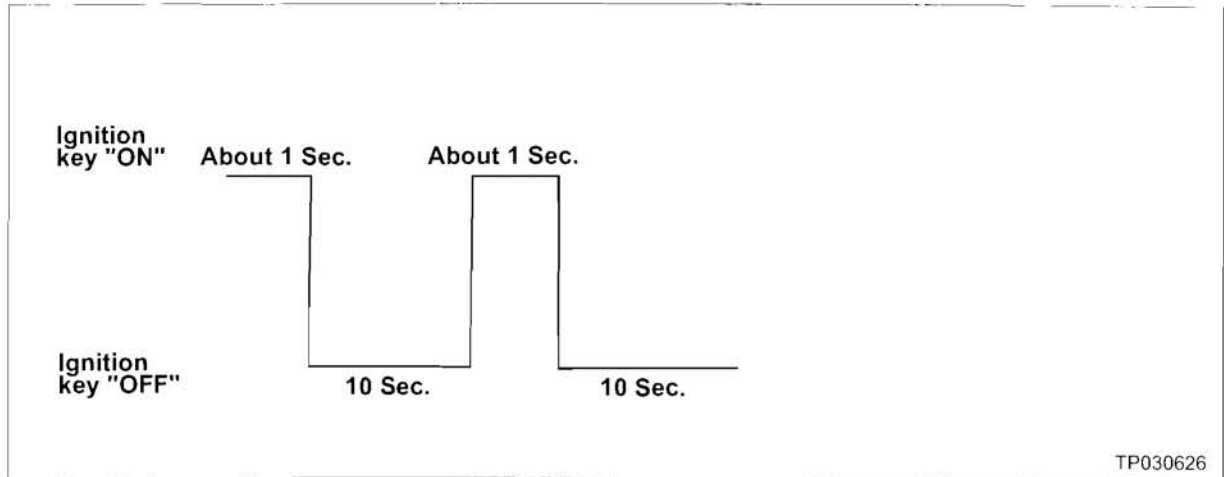

Figure A21
30. **Wait more than 10 seconds, then turn the ignition switch ON for 1 second. Then, turn the ignition switch OFF again for 10 seconds (see Figure A21).**